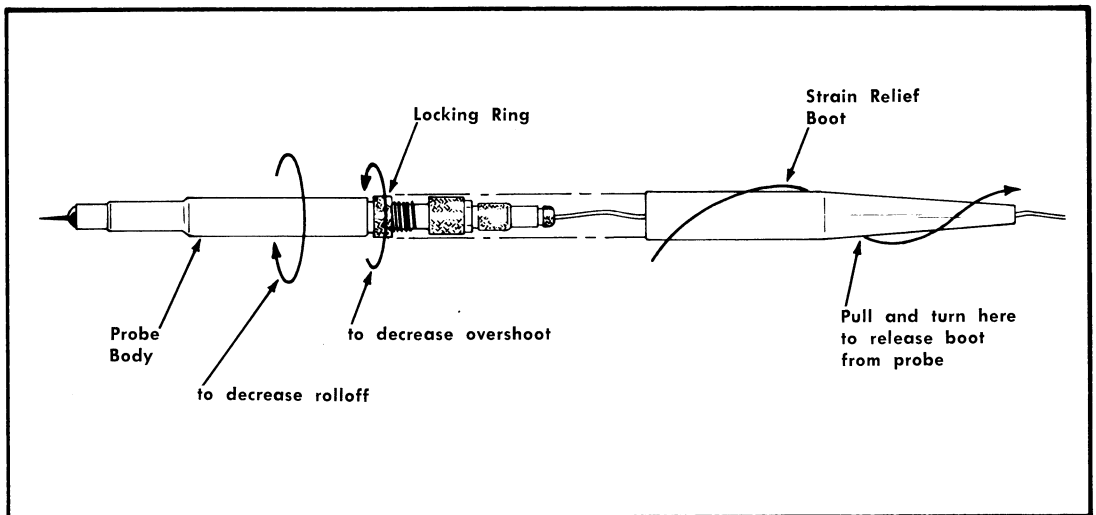

Fig. 8. Probe compensation.
- a. Grasp the strain relief boot near the middle and use a pulling and turning motion to separate it from the probe body. See Fig. 8.